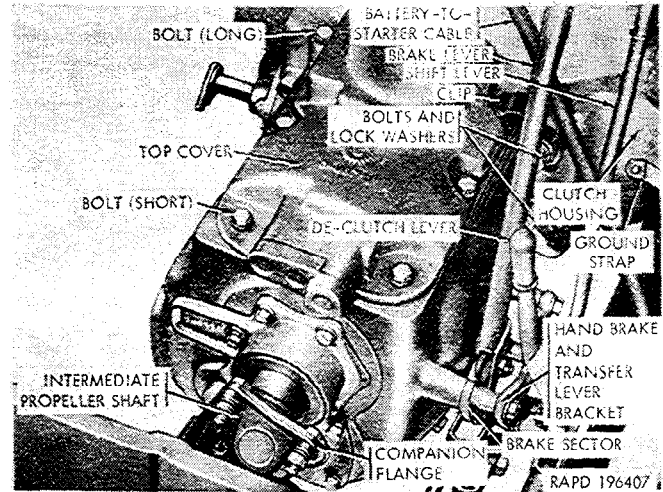

Figure 2-125. Transmission—installed.
(1) Remove the transmission access cover (para 2-75 g).
(2) Disengage the battery-to-starter cable from the cable clip (fig. 2-125).
front bolt opening (fig. 2-125) and a 3/8-inch lock-washer and bolt for each of the other five openings, attaching the cable clip at the right front corner. Tighten the bolts evenly.
(2) Remove the three screws and lockwashers that secure the handbrake and transfer lever bracket to the right side of the transmission case.
(3) Disengage the battery-to-starter cable from the clip on the transmission top cover (fig. 2-125).
(4) Remove the four nuts, lockwashers, and bolts that secure the intermediate propeller shaft to the companion flange on the transmission (fig. 2-125). Secure the shaft to keep it off the floor.
(5) Remove the four bolts and lockwashers that secure the transmission to the clutch housing. Using jacks or a dolly, move the transmission
(1) Clean the machined surfaces of the transmission and the clutch housing thoroughly.
(2) Install the winch drive shaft rear universal joint on the power-takeoff drive shaft (para 2-155 c (1) and (2)).
(3) Using jacks or a dolly, position the transmission and move it forward to engage the transmission shaft in the clutch; at the same time, guide the winch drive shaft into the front yoke of the rear universal joint on the power-takeoff drive shaft, aligning the universal joint journals. Do not attempt to force the transmission into the clutch by hammering or other extreme methods.
(4) Install four lockwashers and bolts. Tighten the bolts evenly. Remove the jacks or dolly.
(5) Connect the intermediate propeller shaft to the transmission companion flange and install four bolts, washers, and nuts. Tighten the nuts evenly.
(6) Engage the battery-to-starter cable in the clip on the transmission cover (fig. 2-125).